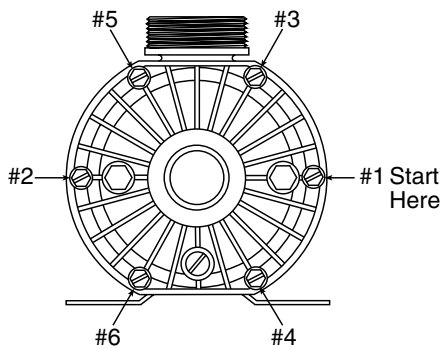

Figure 8 – Torque Sequence
7. Remount front plate; using pattern, shown in Figure 8, torque bolts to 30 inch-lbs. (34.5 cm-kg). **BE SURE** to start with bolt in 3 o'clock position as shown.